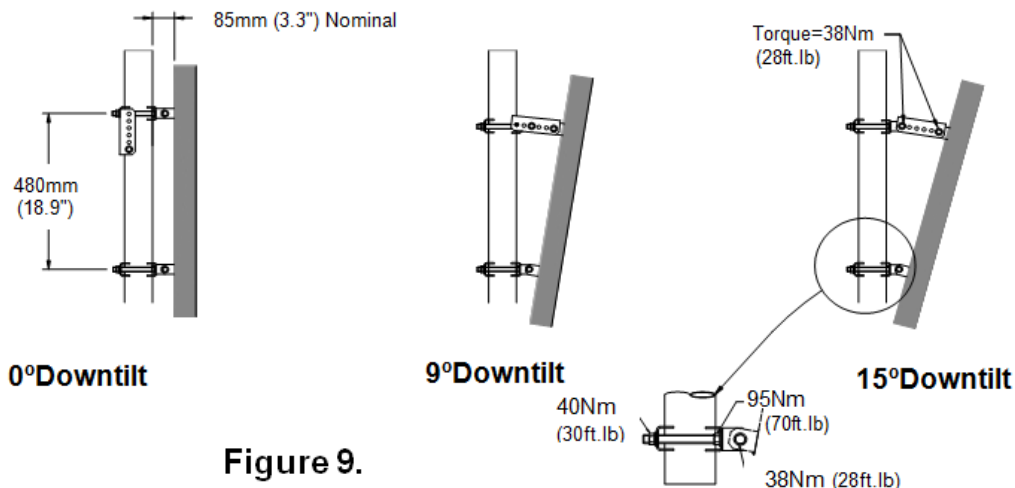

Figure 9.
- For 0° downtilt the tilt arm may be stowed as show in Figure 9.
- 3°-15° downtilt can be achieved by aligning the corresponding hole in the tilt arm to the pivot bracket which mates against the mounting pole, as shown in Figure 9. The first hole is for 3° downtilt, with each consecutive hole resulting in an increased inclination of 3°.
- Figure 9. Sample Antenna Positions Available With T-095-GL-E Kit**